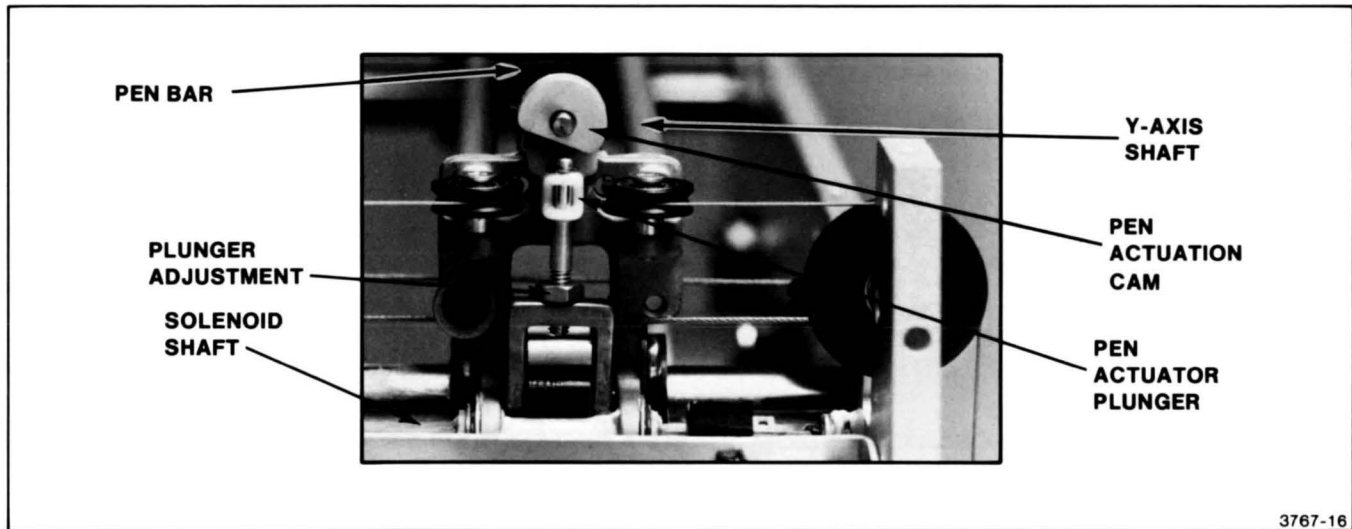

Figure 2-10. Pen Actuator Adjustment.
4. **Move** the pen carriage near the left side of the platen using the joystick. The pen tip should be close to .030 inch above the platen surface with the pen up. Use a feeler gauge to measure this. If the height needs to be changed; (1) loosen the two hex-screws in the Pen Actuation Cam, (2) while holding the right side of the Pen Actuation Cam against the Pen Actuation Plunger, turn the Pen Bar to raise or lower the pen tip to achieve the .030 inch space, and (3) tighten the two hex-screws on the Pen Actuation Cam (see Figure 2-10).